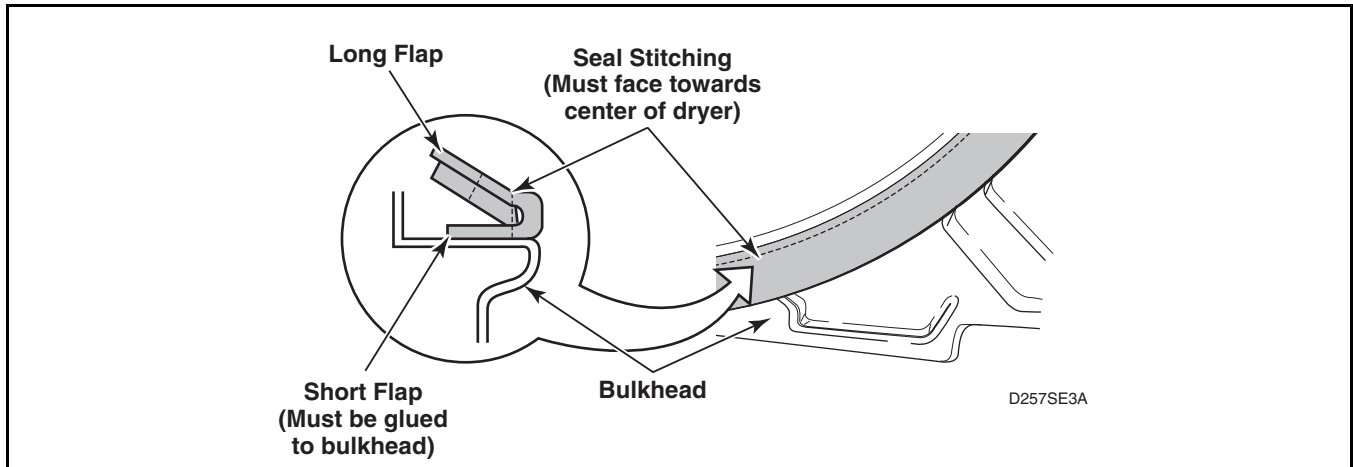

Figure 50
i. **Front Cylinder Seal** (Refer to *Figure 50*.)
- (1) The stitching on the seal must face towards the dryer center. Refer to *Figure 50*.
- (2) The short flap, shown in *Figure 50*, must be glued to the bulkhead and the long flap left loose.